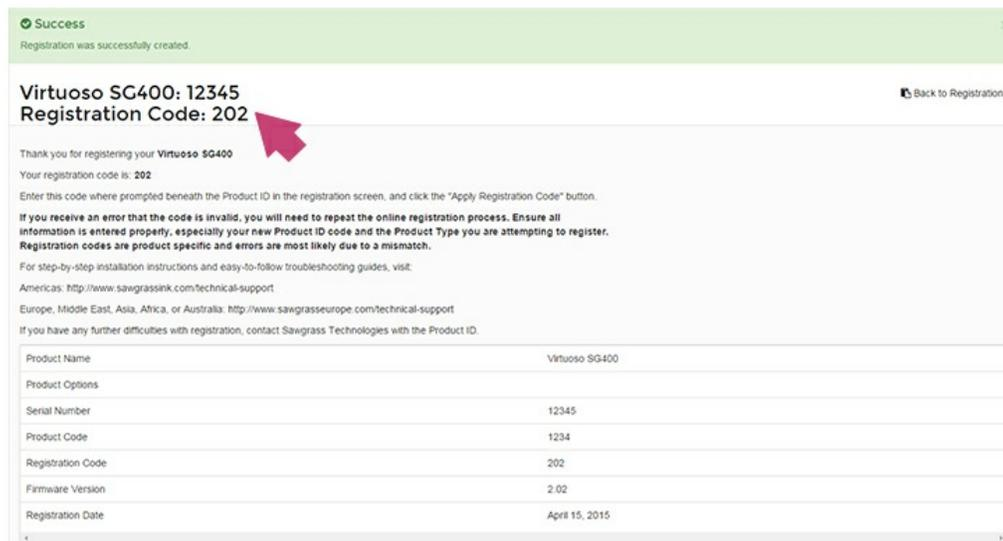

FIGURE 28
28. You will receive a **Registration Code** and a confirmation of your registration. See Figure 28.